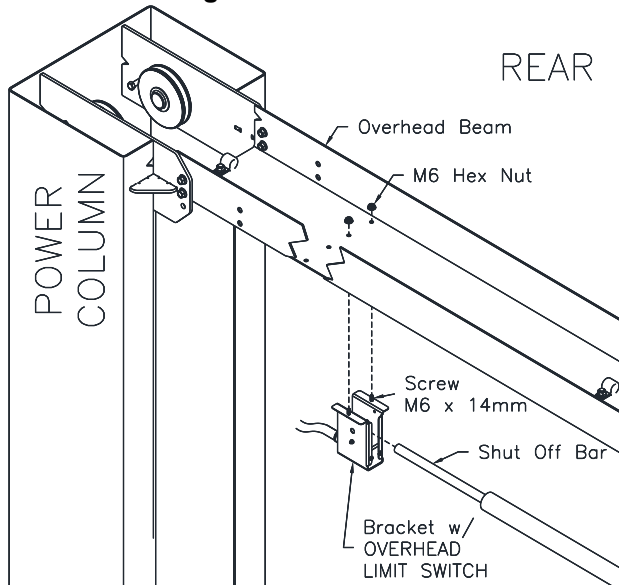

Fig. 7 – Overhead Limit Switch Power Side
- 27) Install Overhead Limit Switch to the Overhead Beam using the rear set of holes on the Power Side of the lift. Fig. 7.